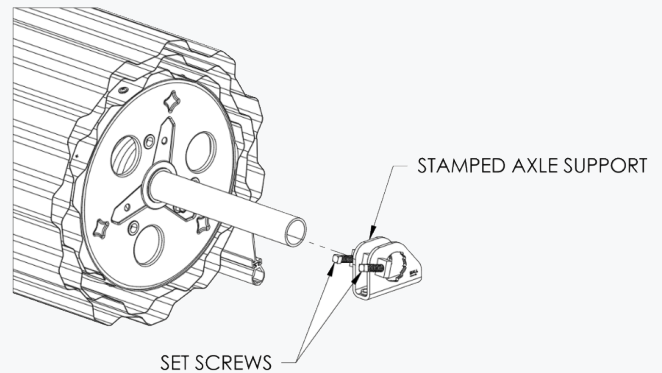

figure 8: Stamped Axle Support Installation
- ✦ Using one (1) Stamped Axle Support per side, with directional arrows pointing towards wall, slide Stamped Axle Support over axle.
- ✦ Tighten 3/8-16 square head set screws hand tight, will position and tighten completely once door is installed. See **Figure 8**.